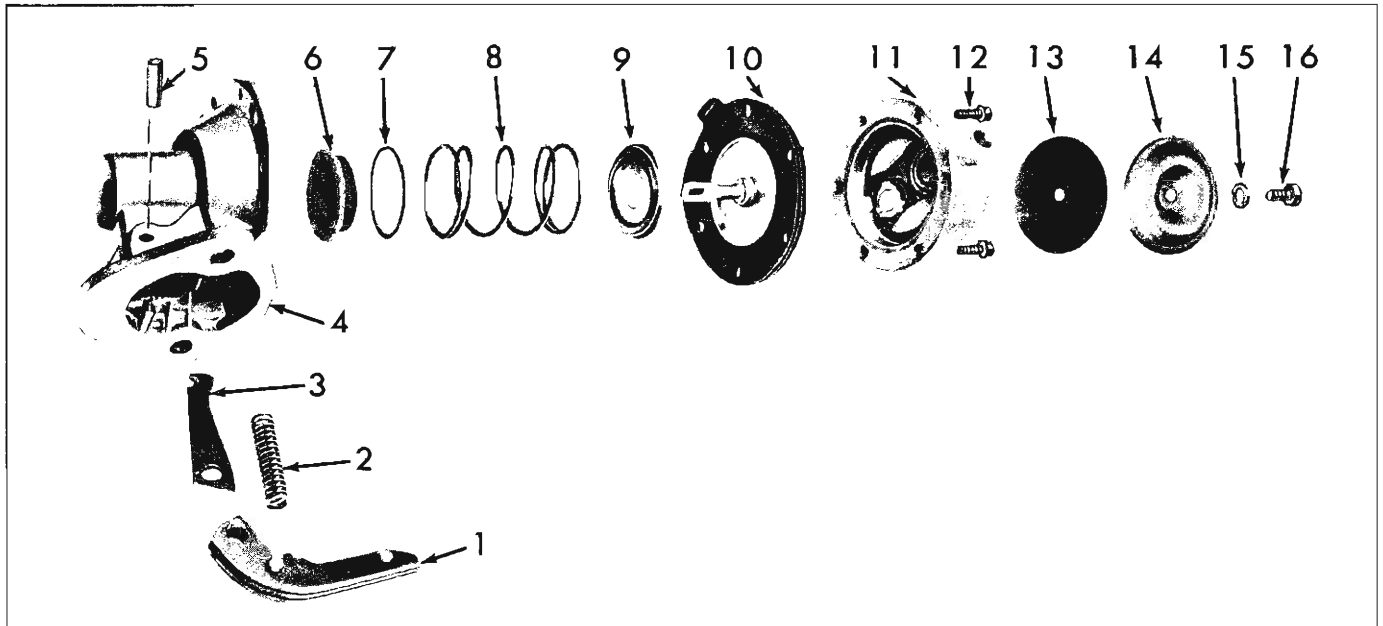

Fig. 25—In-Line Engine Fuel Pump Disassembled
**NOTE:** Fig. 25 shows the In-Line engine fuel pump disassembled as typical.